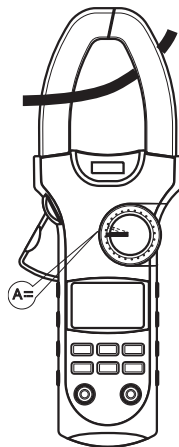

Figure 8
F. DC Current Measurement (see figure 8)